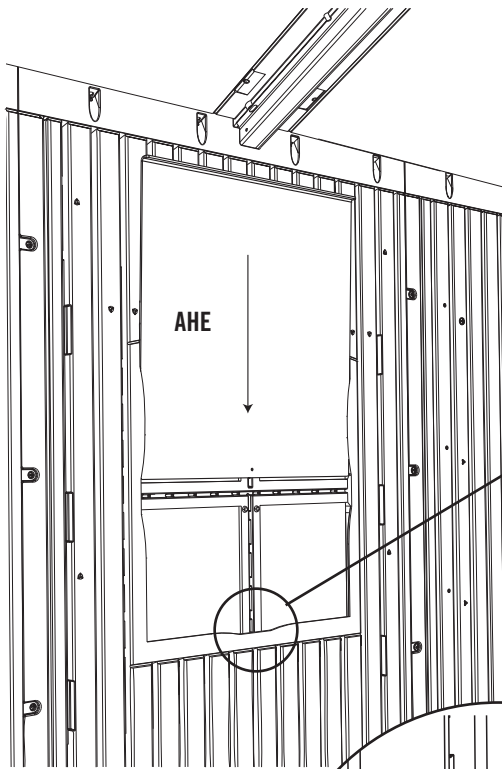
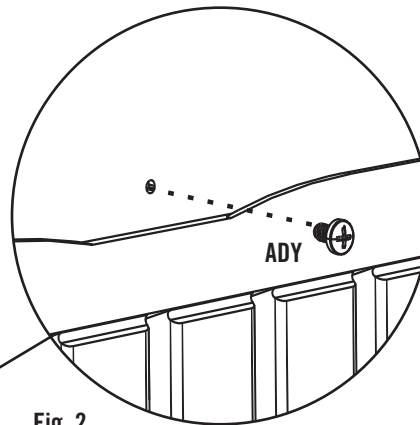

Fig. 1
Fig. 2
Remove the plastic protective film from **both sides** of the **Window (AHE)** and slide the Window into the grooves along the sides of the opening in the Window Wall Panel (Fig. 1). Insert the **#10 x 3/8" Pan-Head Screw (ADY)** into the hole at the bottom of the Window (Fig. 2) until flush. Attach a **Window Latch (AIS)** above each corner of the Window as shown. When tightening the four (4) **1/4" x 5/8" Pan-Head Screws (ADZ)**, ensure the Window Latches slide freely (Fig. 3). Do not overtighten.